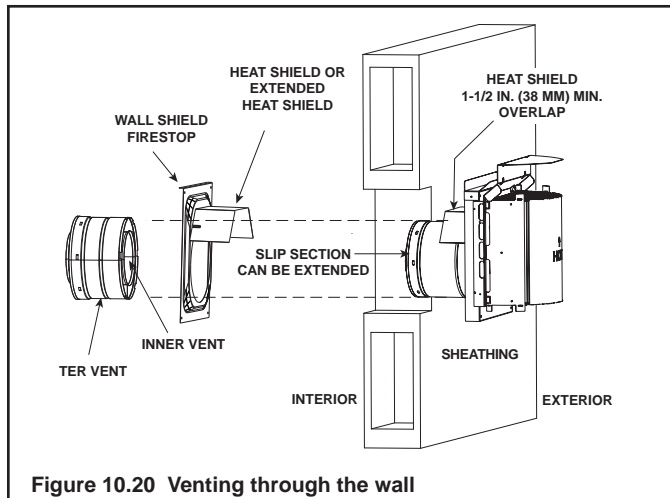

Figure 10.20 Venting through the wall
- **DO NOT** remove the heat shields attached to the wall shield firestop and the horizontal termination cap (shown in Figure 10.20).
There are two sections of the heat shield. One section is factory-attached to the wall shield firestop. The other section is factory-attached to the cap. See Figure 10.20.